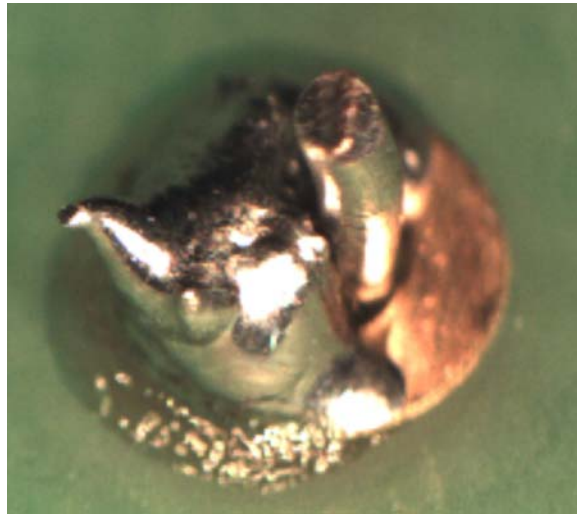

Figure 4 – Cold Joints
- Cold joints: Insufficient heating and insufficient flux content in wire can both result in joints where the solder does not wet well. There is a minimum activation temperature below which the flux will not properly remove metal oxides. All the surfaces to be soldered must reach a minimum temperature for intermetallics to form. Putting a drop of molten solder on a piece of copper will not result in a joint unless there is enough heat in the molten solder to heat the copper to that temperature. Also, solder alloys wet and spread better the higher the soldering temperature. This improved wetting is caused by changes in surface tension and intermetallic growth rate. Poor wetting results in lower joint strength, voiding, and in some cases no joint at all (Figure 4).